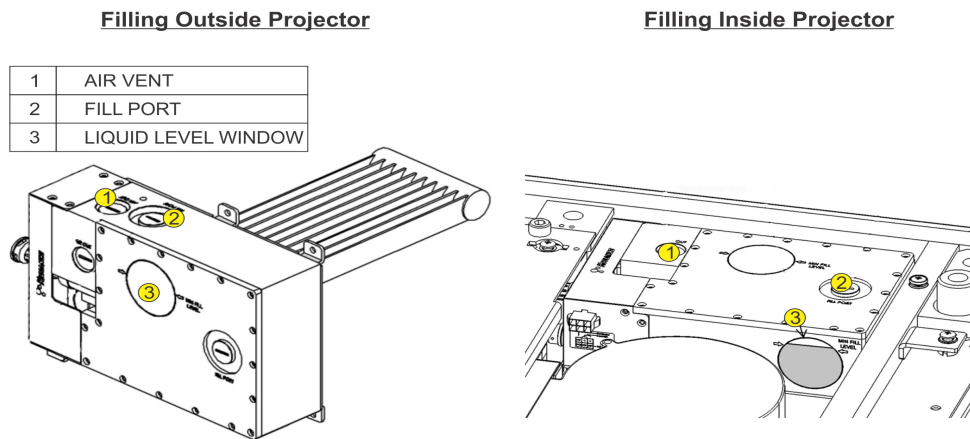

FIGURE 4-7
4. Locate the Liquid Cooling Module and inspect the liquid level window. **NOTE:** *The arrow is next to the window which indicates the “MIN FILL LEVEL”.* Refer to Figure 4-7.
1. Using a flat head screwdriver, remove the fill port cap and the air vent cap. See Figure 4-7.